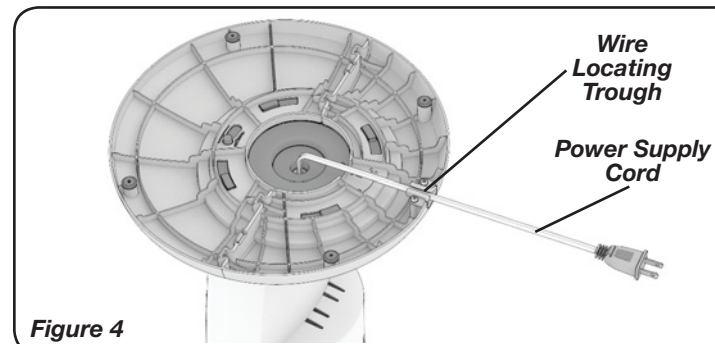

Figure 4
5. Gently pull any excess slack of the Power Supply Cord and place it in the Wire Locating Trough. (Figure 4)